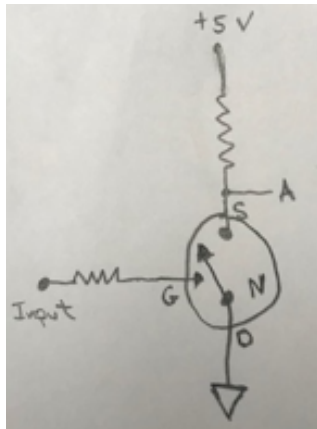
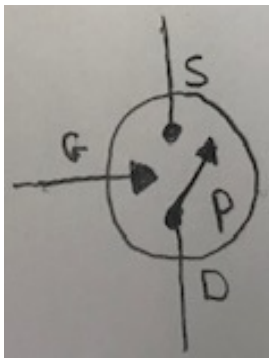

Figure 11: Schematic for circuit containing an N-Type transistor.
Figure 12: Heuristic symbol for a P-Type transistor
16. Remove the electromagnetic relay from your circuit and insert the N-Type transistor into the circuit as shown in the schematic in Figure 11. Connect the input of the circuit (i.e. the gate) to one of the Logic Switches and the output of the circuit (A) to one of the Logic Indicators. **Have the instructor inspect your circuit before continuing.**
20. Replace the N-Type transistor in your circuit from Figure 11 with the P-Type transistor. The source, gate and drain of the P-Type transistor have the same orientation as the N-Type transistor. Be sure to keep them in the same configuration in the circuit. Draw a schematic diagram of your new circuit using the heuristic symbol for a P-Type transistor shown in Figure 12.